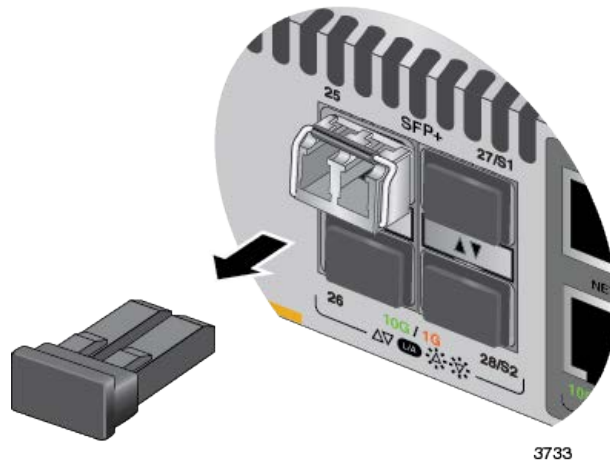

Figure 86. Removing the Dust Cover from an SFP or SFP+ Transceiver
5. Remove the dust cover from the transceiver. Refer to Figure 86.
1. If the SFP+ port has a dust cover, remove it. Refer to Figure 86 on page 190.